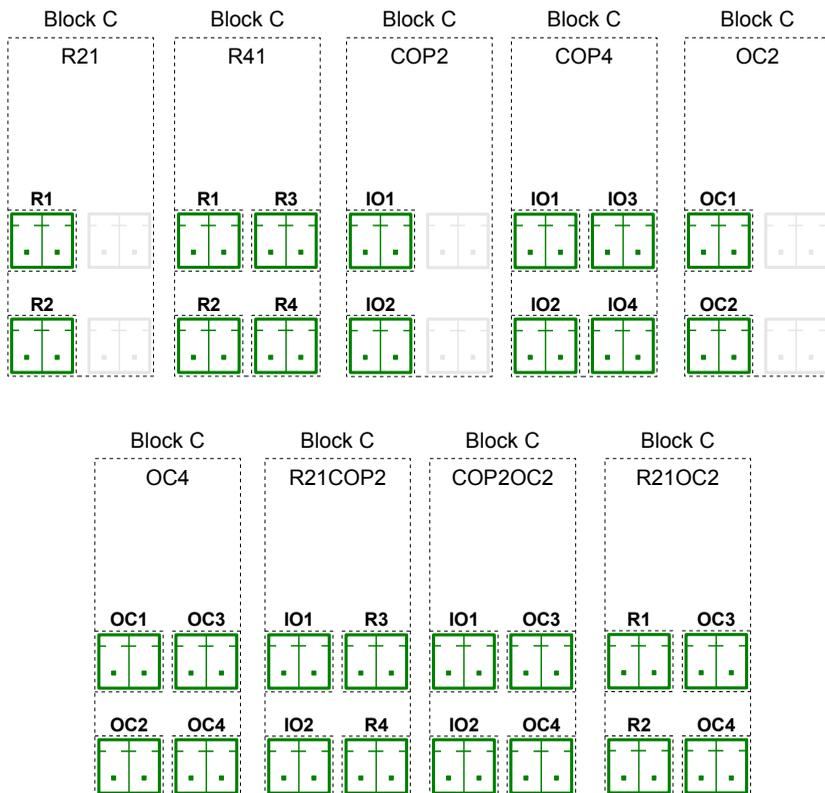

Fig. 8.12. Hardware output configurations for Block C
**Fig. 8.12** shows available hardware output configurations. They are built with different combinations of electrical relay outputs (described as **R21** and **R41**), passive current outputs (described as **COP2** and **COP4**) and electronic relay outputs with PWM function (described as **OC2** and **OC4**).